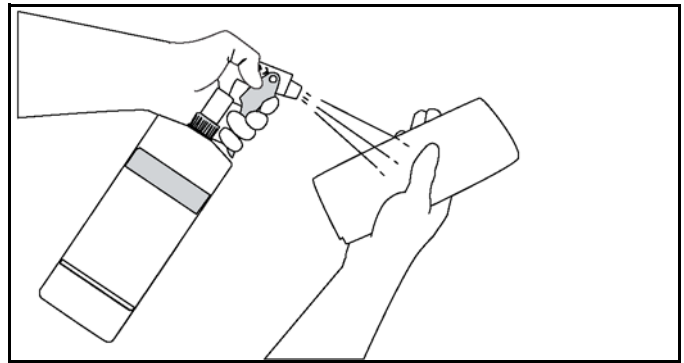

Figure-108
14. Spray a clean, sanitizer-soaked grill cloth once with grill cleaner. Wipe the soiled side of the release sheet until clean. See Figure-108.